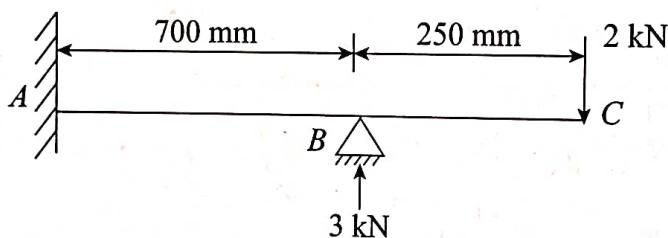

Figure 6.23
- 6.10 Draw the SF and BM diagrams for the cantilever beam shown in Fig. 6.23. The vertical load of 2 kN at C is partly supported by a force of 3 kN at the prop B. State: a) the reaction at the built in end; b) the maximum BM and its position and c) where the BM is zero.